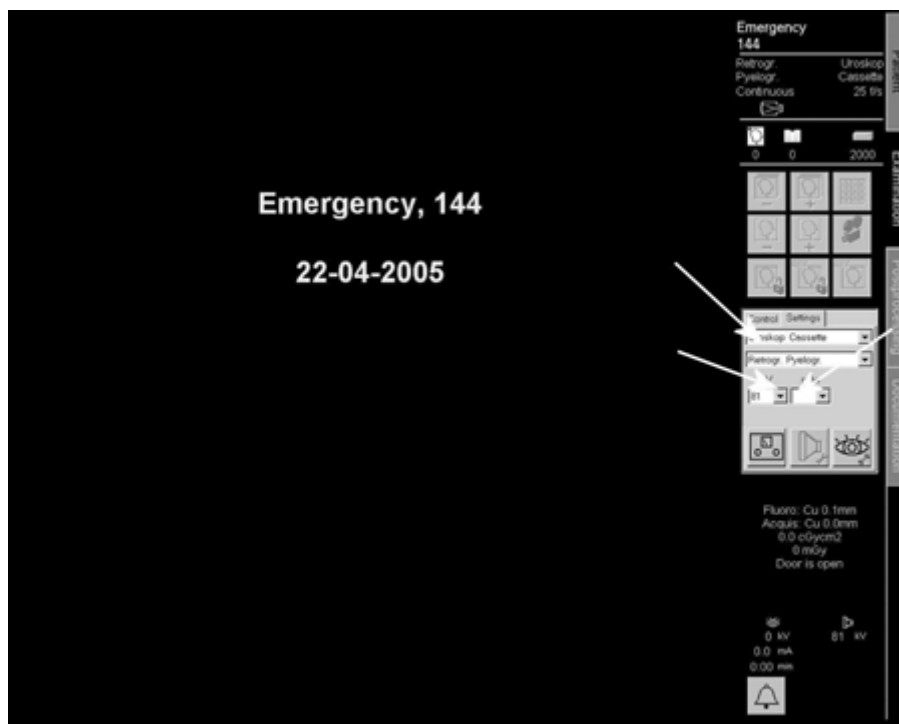

Fig. 18:
- Select the **Examination** task card and select **Uroskop Cassette, 70 kV and 320 mAs** in the list boxes (Fig. 18 / p. 28) of the **Settings** sub task card.